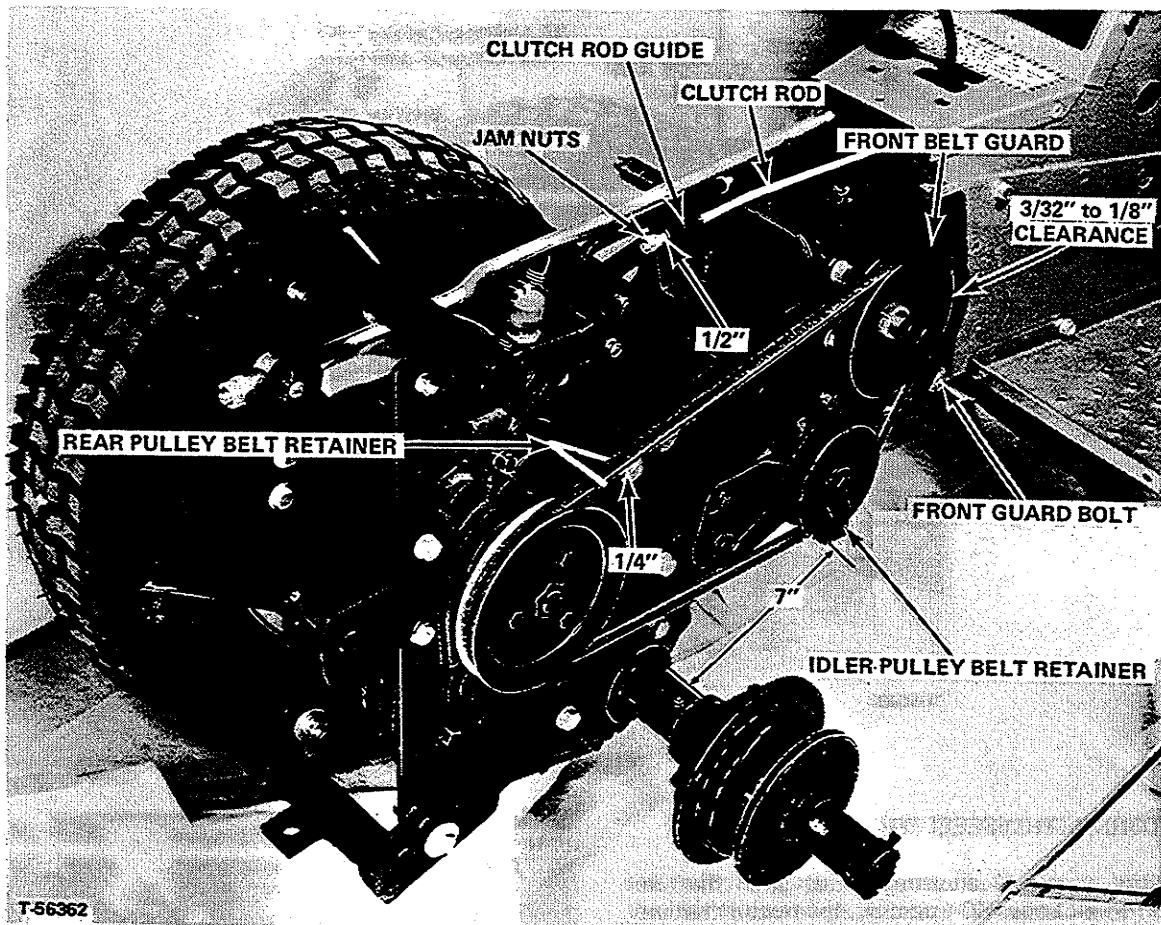

FIGURE 24
3. With clutch pedal up in engaged position adjust jam nuts on clutch rod 1/2 inch away from clutch rod guide (Figure 24).
4. Rotate front belt guard around front guard bolt until guard has clearance of 3/32 to 1/8 inch to outside diameter of front pulley at the closest point. Be sure guard stays in proper location as front guard bolt is tightened (Figure 24).
5. Rotate the idler pulley belt retainer around pulley until rear edge of retainer is 7 inches from front side of axle shaft as shown in Figure 24. Securely tighten bolt through pulley hub.
6. Adjust rear pulley belt retainer to have 1/4 inch clearance to top of belt (Figure 24).